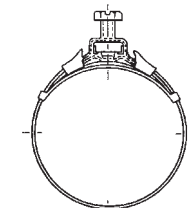

Figure 2
- This clamp (Figure 2) is best for low torque applications. Force is localized under the screw causing deformation of nipple at medium torque levels.